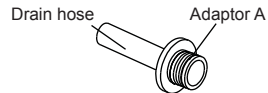

Fig.9
- Install the drain hose onto the adaptor A (See Fig.9, placed in the bucket).